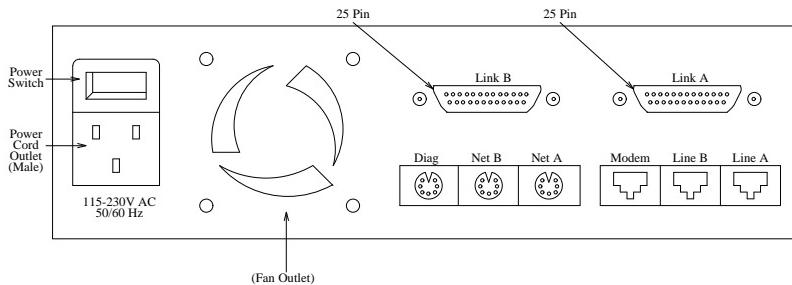

Figure 4-1. Back View of the SID
1. Connect the analog line to the MODEM port on the SID, as shown in Figure 4-1.